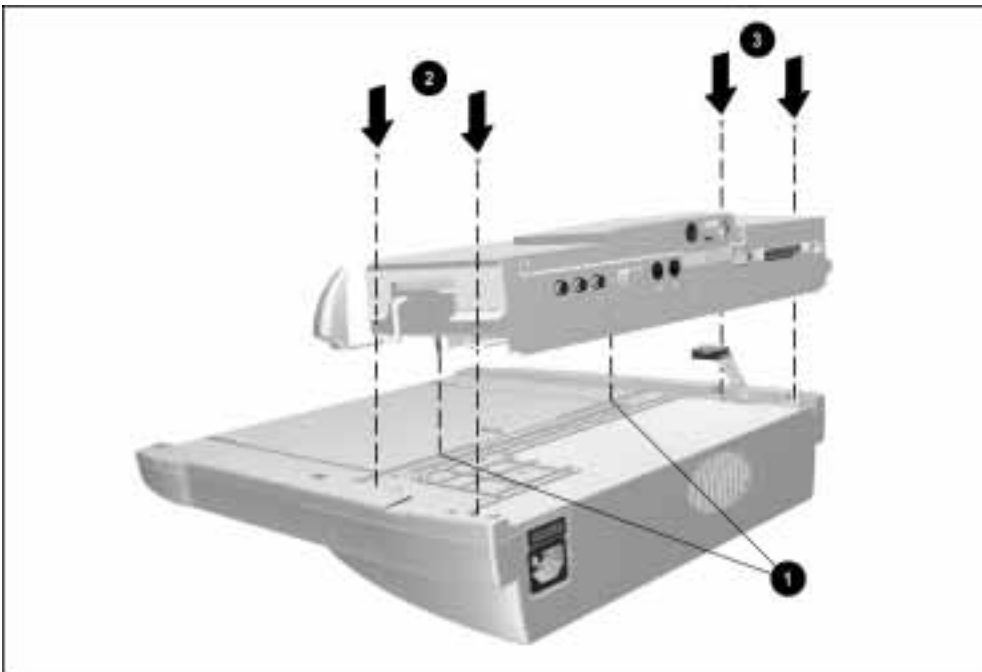

Figure 6-10. *Installing the Module Assembly*
1. Align the alignment pins on the bottom of the module assembly with the holes in the base assembly ❶ and place the module assembly on the base assembly (Figure 6-10).
3. Install the two screws ❷ on the right side (the side with the docking lever) of the assembly.
4. Install the two screws ❸ on the left side of the assembly.